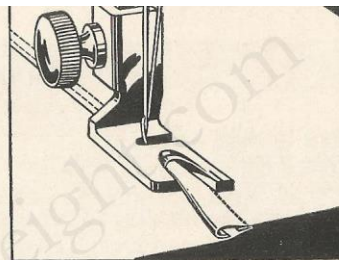

Fig. 39. Making a Felled Seam (Second Operation)
2. Open the work out flat, wrong side up, and hem free edge of seam, stitching it flat to garment as shown in Fig. 39.